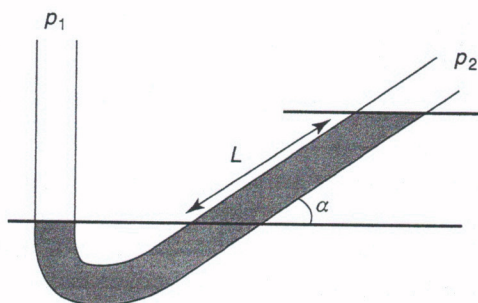

Figure 4.66
15. A tilted manometer is used to measure very small pressure differences. For the tilted manometer shown in Figure 4.66, what is the pressure difference between the two sides in terms of the variables defined in the figure?